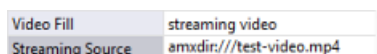

FIG. 168 TPDesign5 - Streaming Source (State) property
10. For the Streaming Source property, enter the filename of the video file with **amxdir:///** as the prefix. For example, if the video filename is "test-video.mp4" then enter the Streaming Source as "amxdir:///test-video.mp4" (FIG. 168):